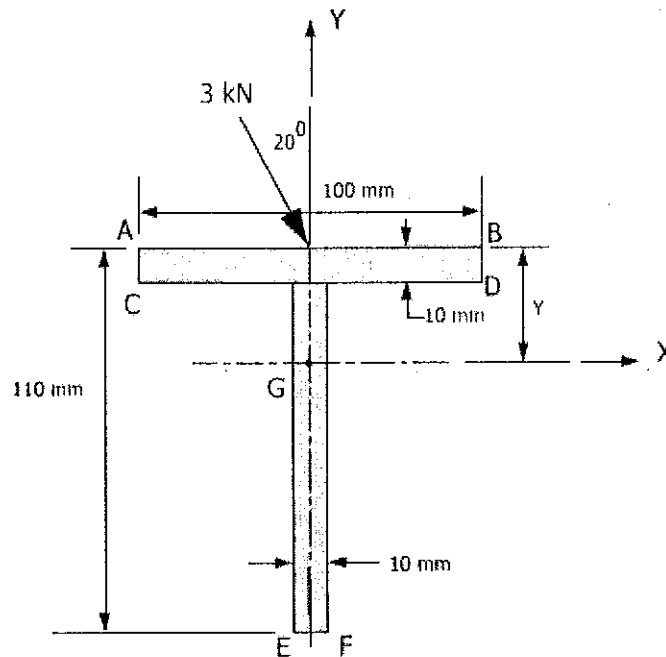

Figure Q5
- Q5 A cantilever beam having a T – Section with dimensions as shown in Figure Q5 is subjected to a point load of 3 kN acting at an angle of  $20^\circ$  to the vertical at the free end. The length of the cantilever is 1 m.